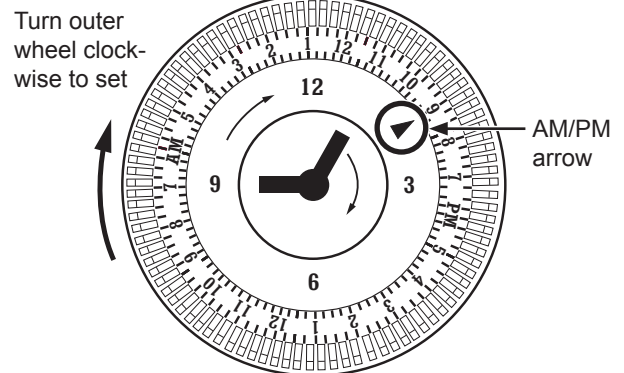

Figure 1
- Set the timer only with the main power switch in the OFF (O) position.
- 1 With the main power switch off, turn the outer wheel on the timer clockwise until the correct time (AM or PM) lines up with the arrow on the clock face (Figure 1).